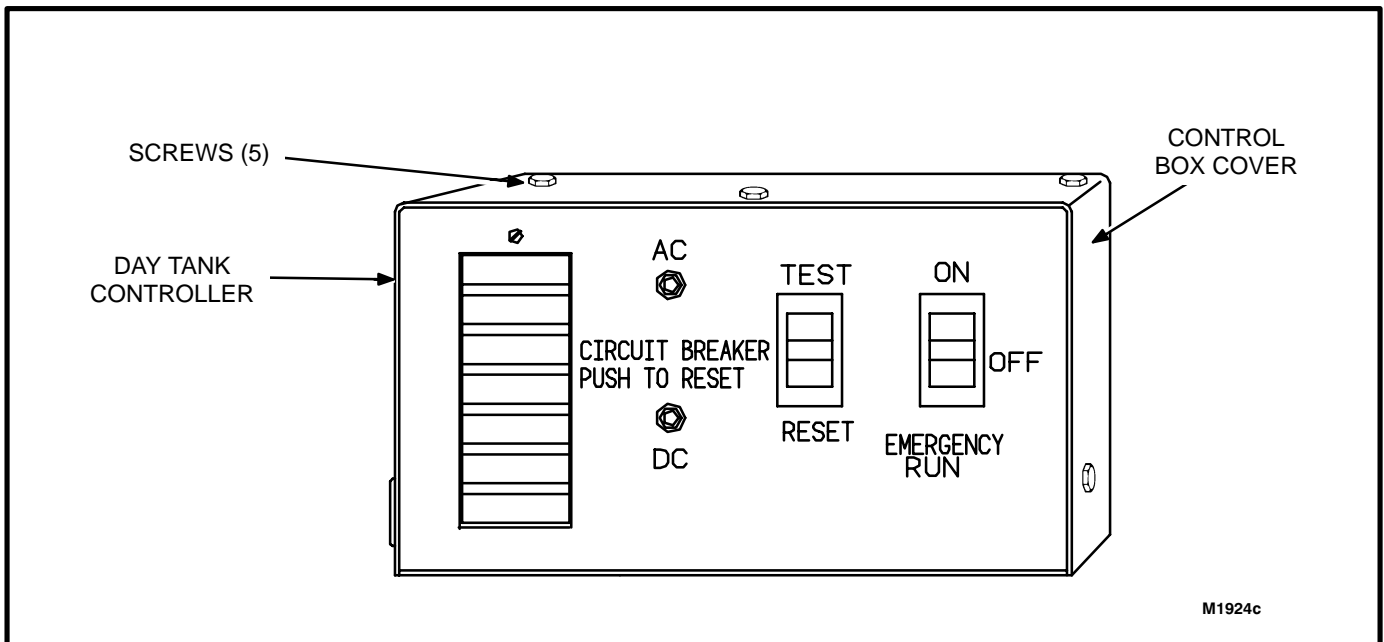

FIGURE 4-2. DAY TANK CONTROLLER
Quiet Site gensets with factory-mounted day tank pumps and controllers require that the operator attach power connections to the controller circuit board. AC power to the controller circuit board can be either from the genset or an external source. If the genset is being used in a standby configuration, the day tank controller (see Figure 4-2) should be powered by the emergency bus.
2. Remove the five screws that secure the control box cover to the control box and remove the control box cover (see Figure 4-2).